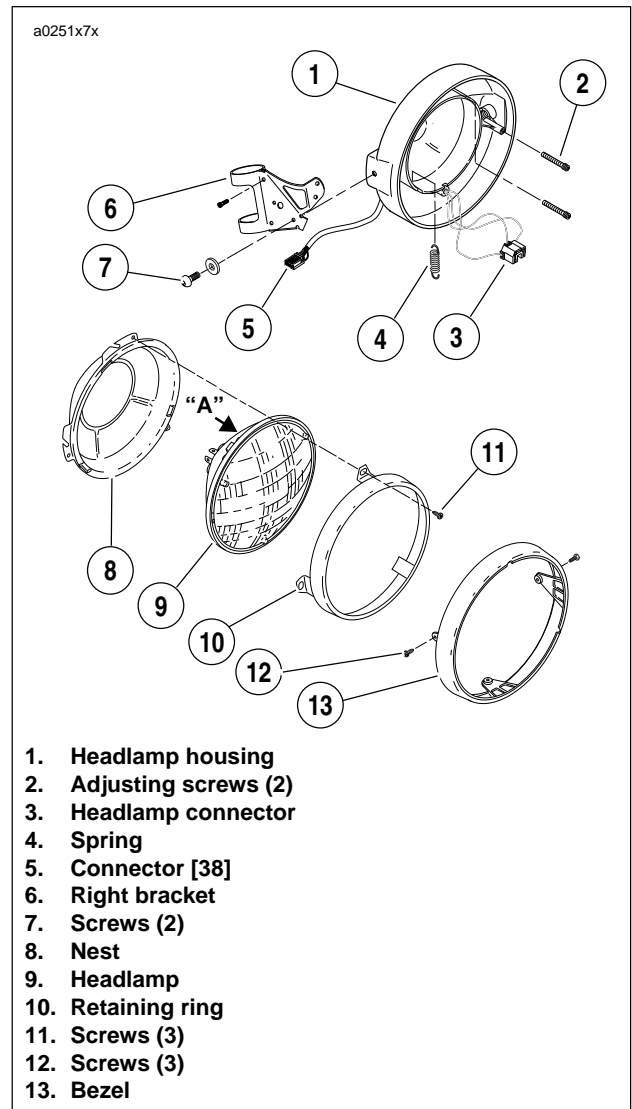

Figure 7-63. Headlamp Assembly
2. See Figure 7-63. Remove three phillips head screws and bezel from nest.
1. See Figure 7-63. Remove two screws and washers and partially remove headlamp housing from vehicle.
- b. See Figure 7-63. Install bracket with two allen screws and tighten to 12-14 ft lbs (16.3-19.0).
2. See Figure 7-63. Attach connector [38] to wiring harness.
1. See Figure 7-63. Connect headlamp connector to rear of headlamp.